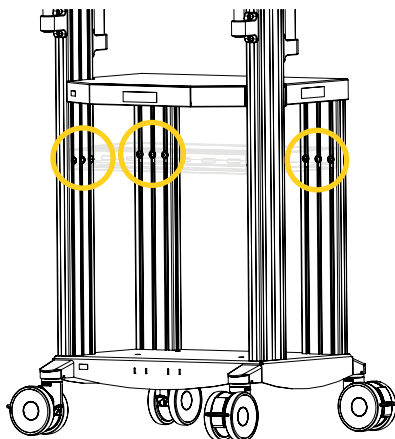

Figure 40: UPS protector/shelf screws (9 of 12 screws illustrated)
1. Ensure to have applied all four (4) brakes on the transport cart.
2. Loosen the twelve (12) screws of the UPS protector/shelf (three (3) screws on each vertical rail) by turning them a quarter of a turn counterclockwise, using an Allen key 3/16 in. (Figure 40).